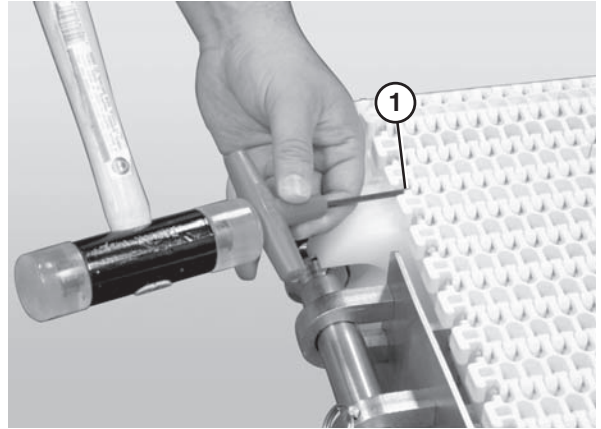

Figure 52
1. Use a punch and hammer to push the belt rod out by striking the rod end opposite the retaining head (**Figure 52, item 1**).